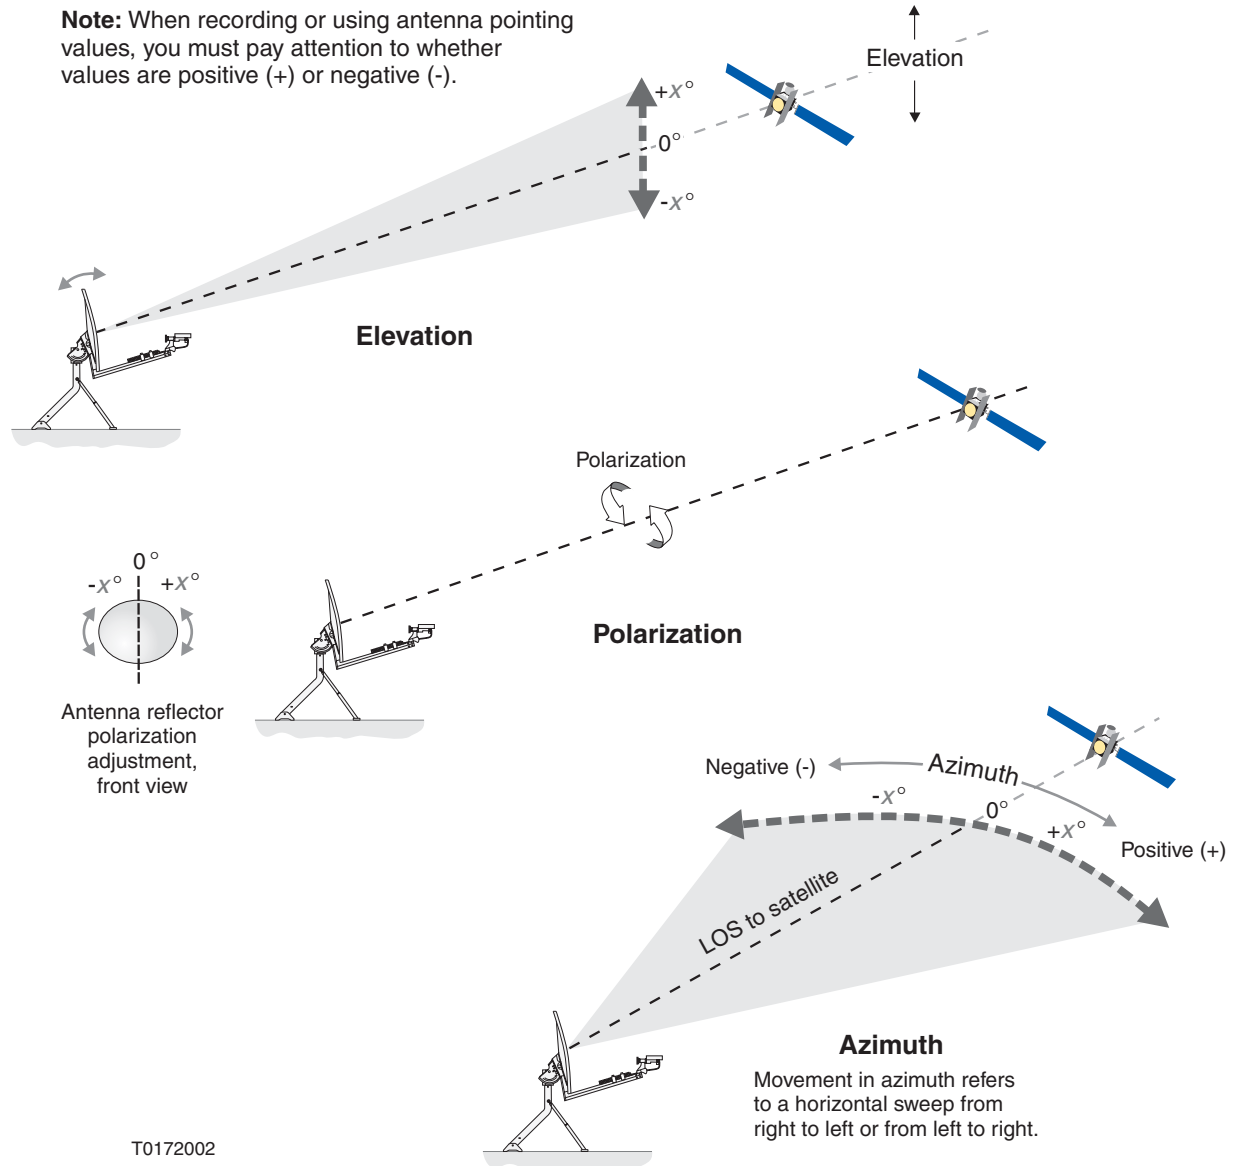
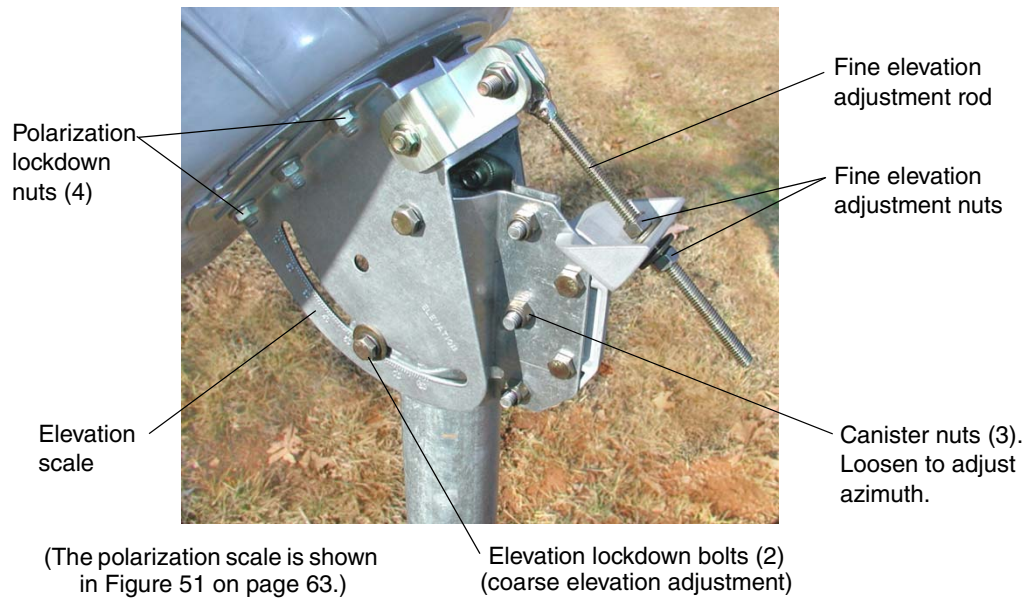

Figure 47: Adjusting elevation, polarization, and azimuth
Figure 48: Pointing adjustments on the antenna—elevation, polarization, and azimuth
These adjustments are illustrated in Figure 47. The corresponding mechanical adjustments on the antenna are shown in Figure 48.
Figure 48 shows the mechanical adjustments for azimuth, elevation, and polarization. All pointing adjustments require a ½-inch wrench.
Note: The elevation lockdown hardware shown in Figure 48 may be two nuts or two bolts (one on each side of the Az/El assembly).
**Setting polarization** *Polarization* refers to rotation of the antenna (as shown in Figure 47 on page 59) and is measured in degrees from zero (no rotation), positive or negative. Polarization is positive east of the satellite longitude and negative west of the satellite longitude.